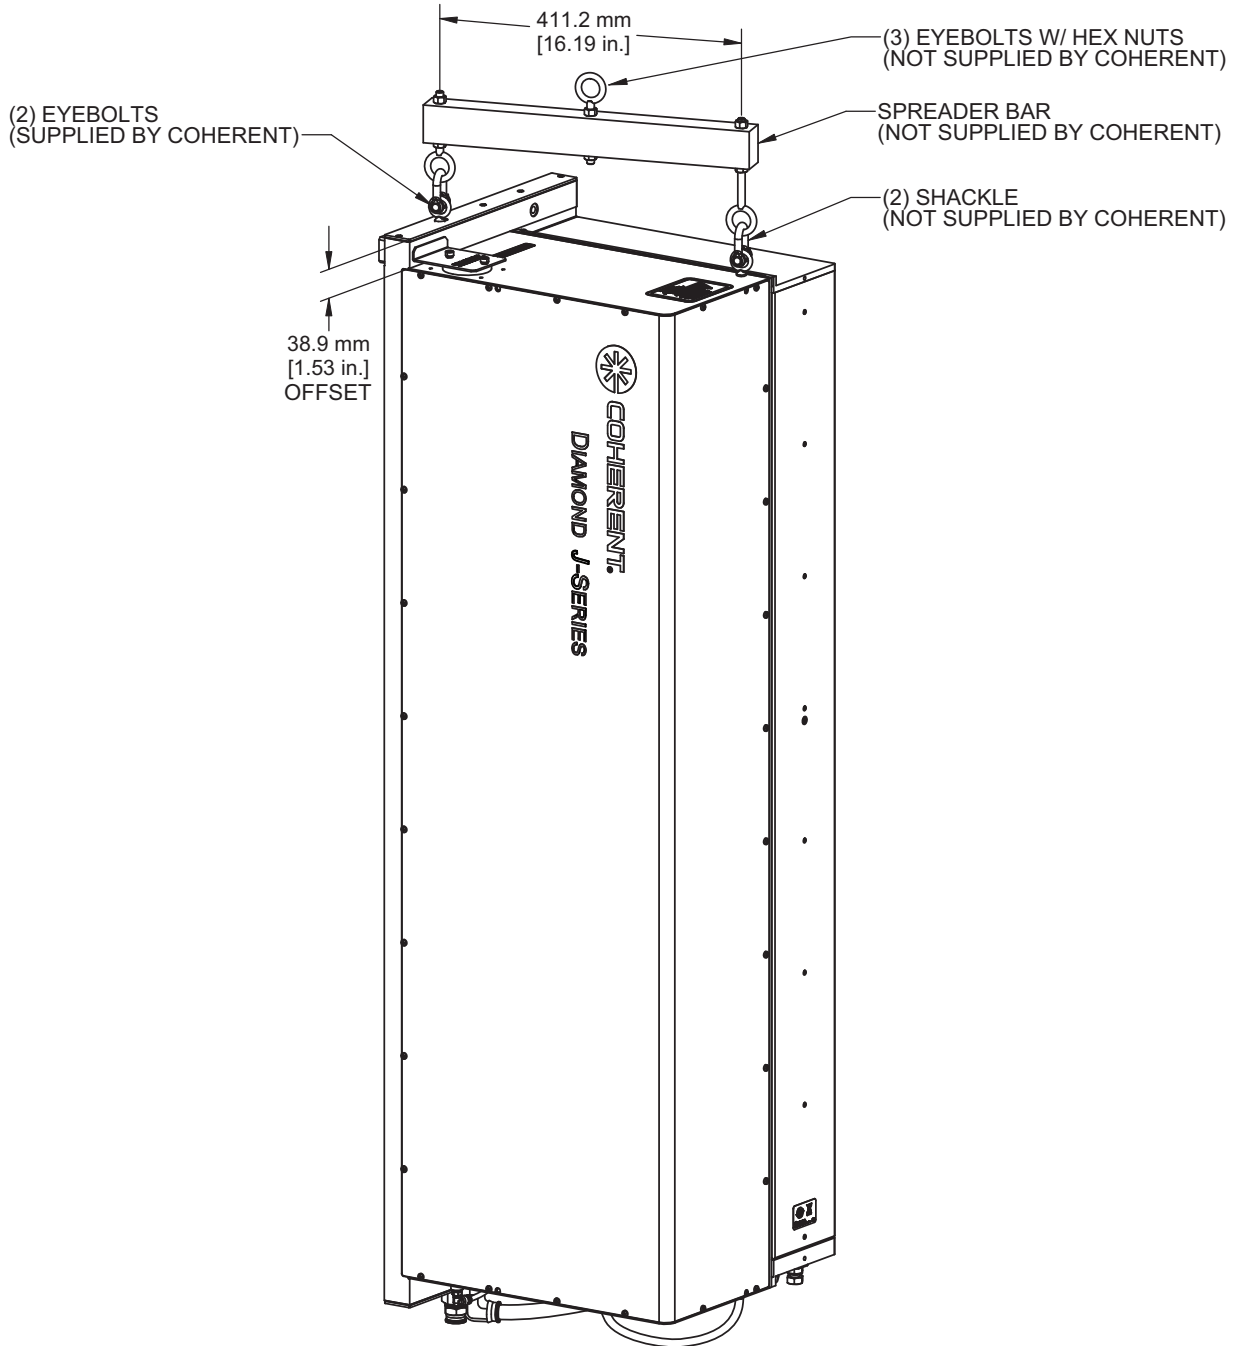

Figure 4-22. Vertical Mounting Illustration
- Securely connect appropriate slings or chains to the eye-bolts and spreader bar. Chains/slings must be vertical when under load. See Figure 4-22.